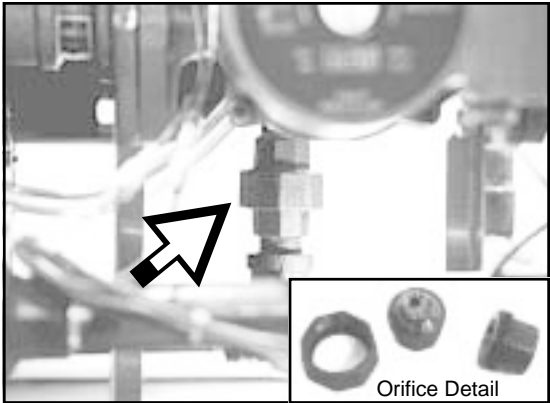

Figure 22
2. The gas orifice is screwed into the union. (See Fig. 22, Orifice Detail)